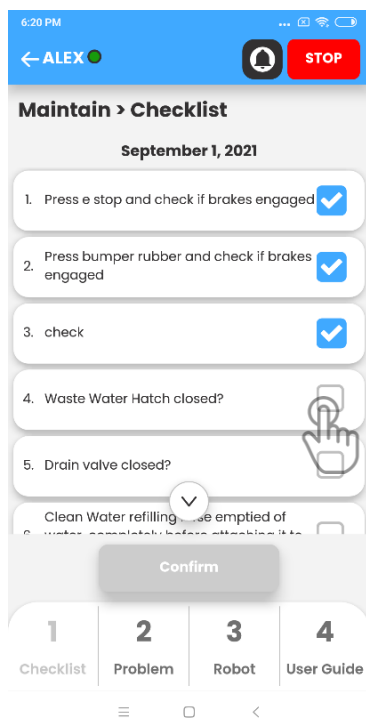
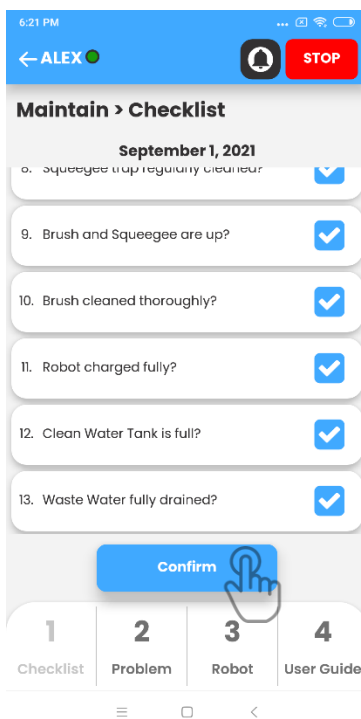

Fig. 1
Fig. 2
1. Fig. 1 shows the checklist of recommended maintenance operations after cleaning with the R3 SCRUB. Check these operations as they are performed and confirm the completion (Fig. 2 & 3).